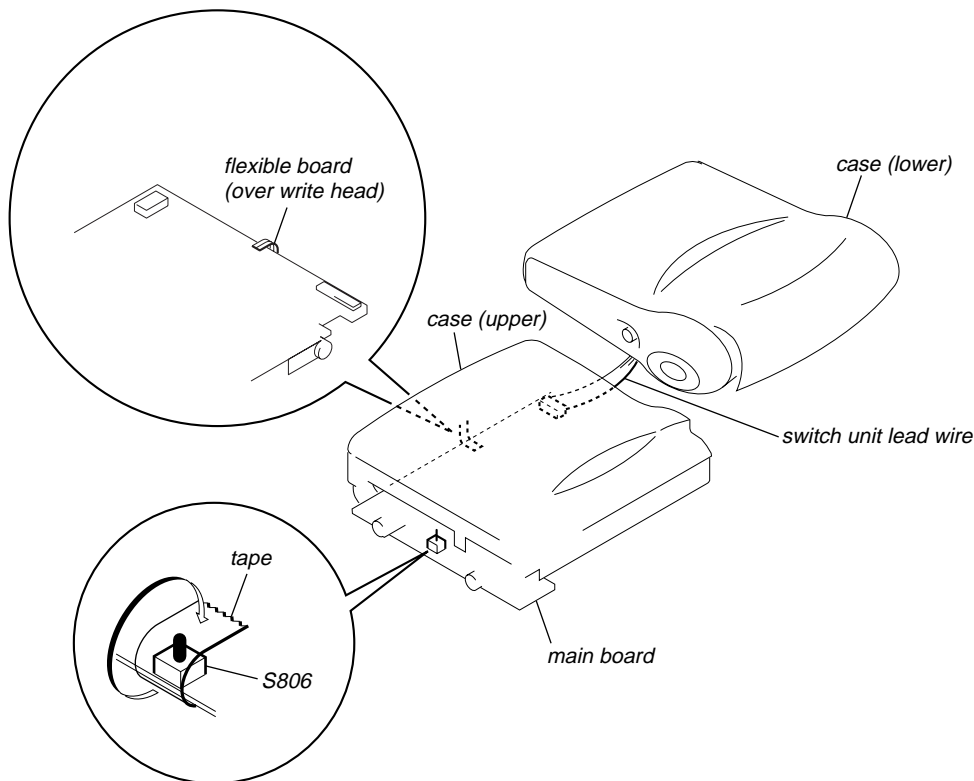

Fig.2
- In performing the repair with the power supplied to the set, removing the MAIN board causes the set to be disabled. In such a case, fix a convex part of the open/close detect switch (S806 on MAIN board) with a tape in advance. Handle the FLEXIBLE board (overwrite head) with care, as it has been soldered directly to the MAIN board. In repairing the component side of MAIN board, connect the FLEXIBLE board (overwrite head) and the MAIN board with the lead wires in advance. (See Fig.2)